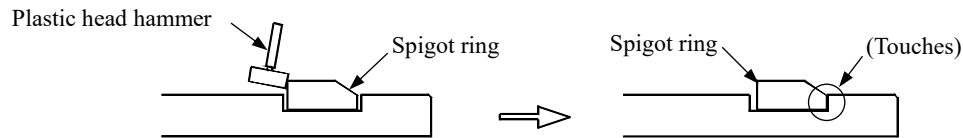

Figure-41 Correct position of spigot ring in the groove
- (3) Tamp the spigot ring lightly with plastic head hammer until the tapered side touches the wall of the groove at the spigot end side (see Figure-41).